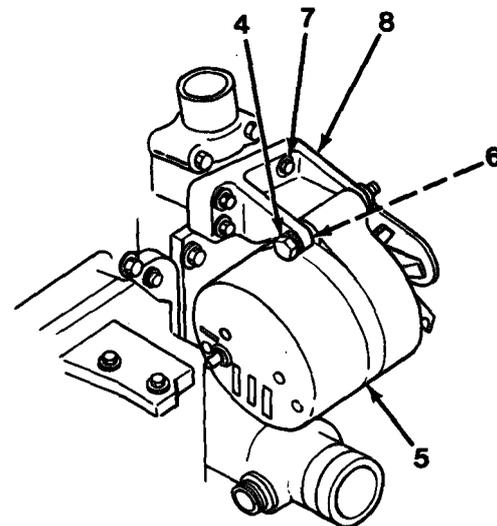

Figure 10-2
4. Using a 13 mm open-end wrench, remove two capscrews (2) and brace (3) from lower end of alternator (5).
5. Using a 17 mm open-end wrench, remove mounting capscrew (4), alternator (5) and spacer (6, Figure 10-2).
6. Using a 13 mm open-end wrench, remove three capscrews (7) and support (8).
1. Install support (8) and three capscrews (7, Figure 10-2) on thermostat housing.
2. Install spacer (6), alternator (5) and mounting capscrew (4). Do not tighten capscrew (4) at this time.